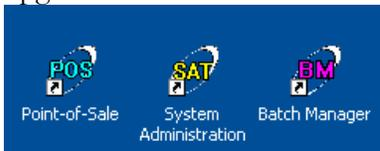

Figure 2.25
16. Upon a successful installation, three shortcut icons to the POS program (POS –Point-of-Sale, SAT – System Administration, and BM, Batch Manager) will appear on the PC desktop (Figure 2.25). The version number can also be verified by signing on to the SAT, POS, or Batch Manager and clicking **'Help'**, **'About PCC OTC'** from the menu at top of the screen. Login and password data is retained during the upgrade so users can sign on to the system as they did before the upgrade.